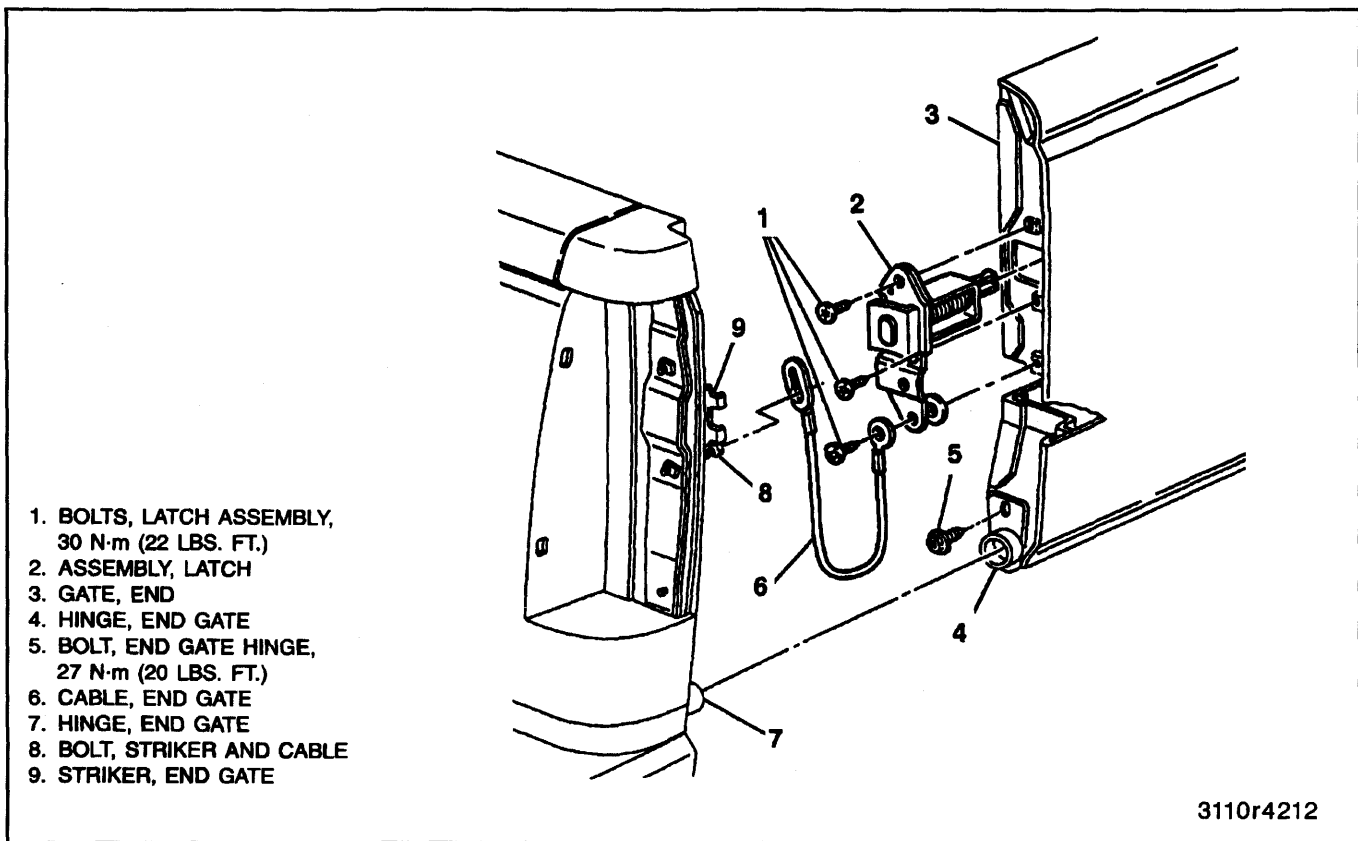

Figure 1—End Cable and Latch Components
Remove or Disconnect (Figures 1 and 2)
Install or Connect (Figures 1 and 2)
Remove or Disconnect (Figure 1 and 3)
→→ Install or Connect (Figures 1 and 3)
2. Three bolts holding the latch assembly to the end gate (figure 1).
Remove or Disconnect (Figure 1)
Install or Connect (Figure 1)